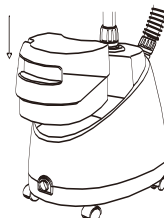

Figure 8
2. Remove the Water Tank, turn it upside down, and unscrew the Valve Cap (See Figure 8). Fill the Water Tank with cool water, and replace the Valve Cap. Do not use hot water. To prolong the lifetime of your steamer, we recommend using distilled or de-mineralized water. Place the water tank back into the unit and make sure it is sitting properly and securely in the cavity. Do not let the steamer operate with a dry water tank, or the damage to the unit could occur.